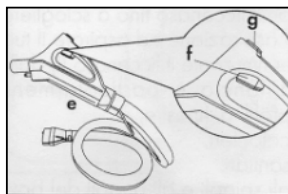

Fig. 11
- Push the vacuum function control button (G) on the handle of the work hose (E) to activate or deactivate the vacuum function. Fig 11
- Push the steam On/Off button (F) on the handle of the work hose (E), to activate or deactivate the steam function. Fig 11